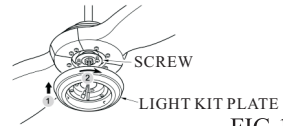

FIG.13
2. Gently pull the wire through light kit plate. Have the key hole over the loosened screws. Turn the light kit plate until it get the end of narrow end. Then, tighten the previously removed and loosened screws. (See Fig 13 & 14)